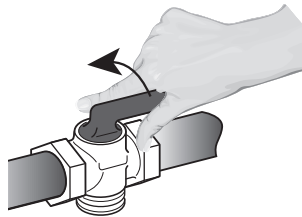

Figure 8
- 2** Shut off the gas supply to the appliance by closing the manual shut-off valve (see Figure 8). Disconnect electrical power to the appliance before servicing. Do not remove regulator or allow it to turn during servicing.